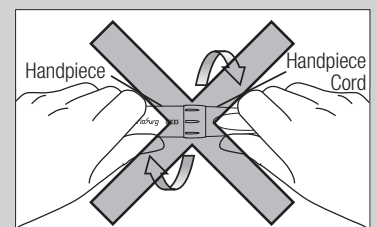

Fig. 22
- The Handpiece can not be removed from the Handpiece Cord. Removing or twisting the Handpiece could cause damage to the internal parts and failure may occur. (Fig. 22)